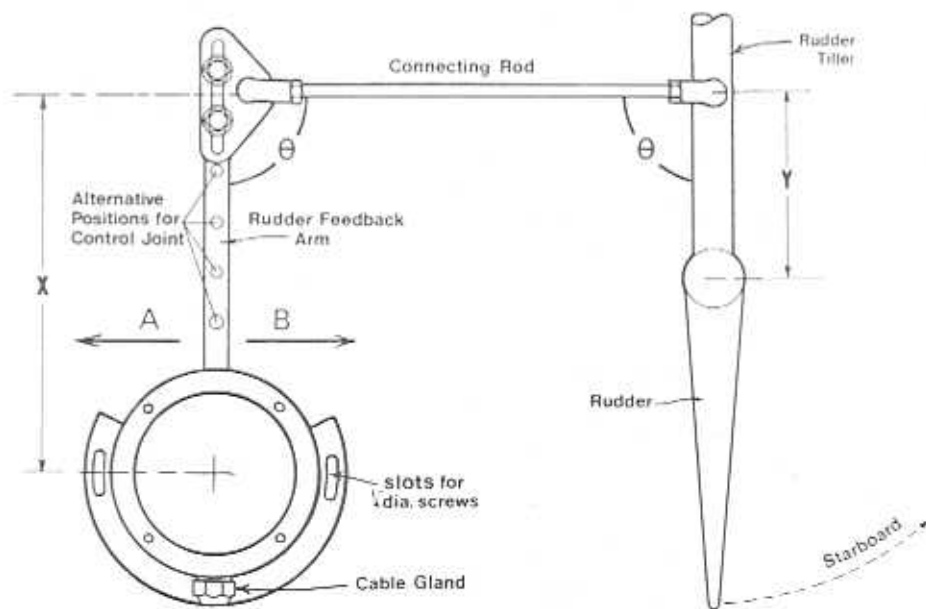

FIG. 14 RUDDER FEEDBACK UNIT
When first installed the connecting rod should be set up so that length 'X' is approximately twice length 'Y'. See Figure 14. Where space permits, it is convenient for the layout to be as shown in Figure 14, but if necessary the unit may be mounted upside down, or so that the tiller/quadrant and feedback arm 'face' each other.
6.2 **WIRING UP THE RUDDER FEEDBACK UNIT.** (Systems using the Electric Drive Unit, driving Mechanical or Hand Hydraulic Steering Gear.) There are 4 combinations of feedback arm movement (referred to as direction A or B - see Fig. 14) and drive unit output shaft rotation as viewed from its exposed end, for a given direction of rudder:-